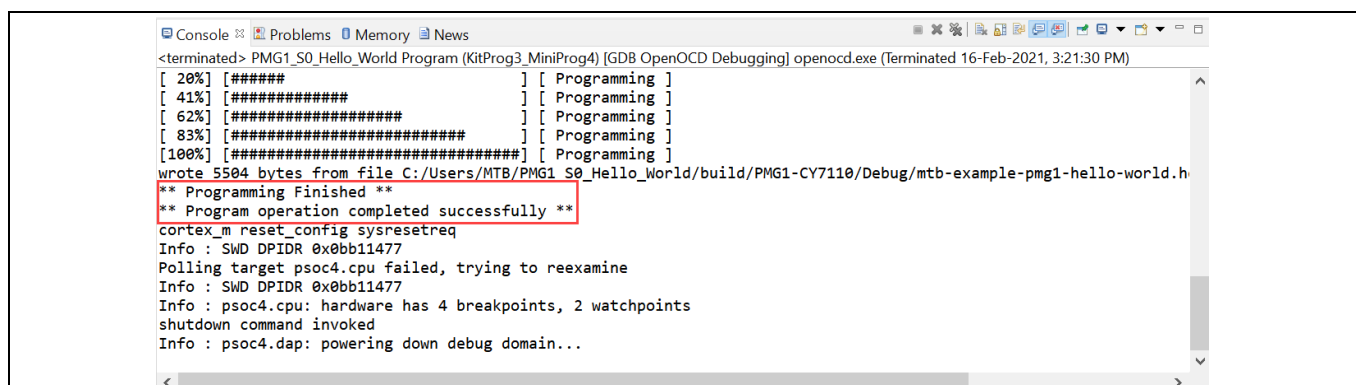

Figure 18 Console – programming results
3. The **Console** view in the ModusToolbox™ software lists the results of the programming operation, as **Figure 18** shows.